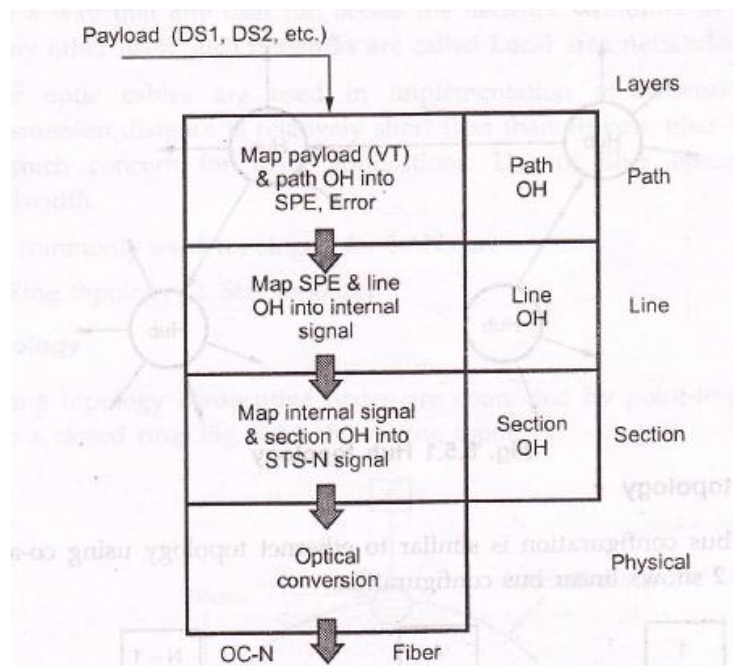

Fig. 8.4.19 Conversion of a legacy signal to a SONET
6. Fig. 8.4.19 shows the above process.